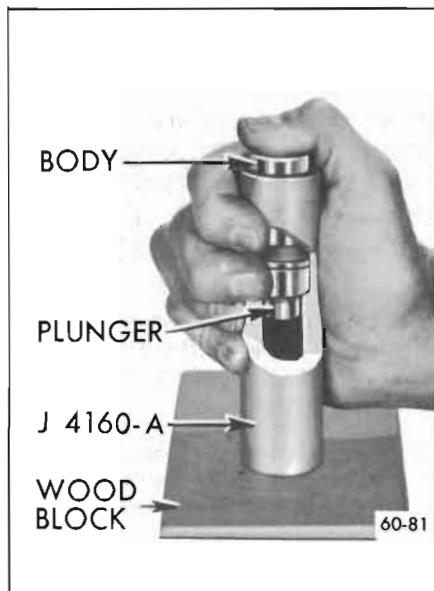

Figure 60-81—Removing Stuck Plunger With J-4160-A
6. If a plunger sticks in lifter body, place lifter in large end of Plunger Remover J-4160-A with plunger inward. While holding lifter with thumb, rap the open end of remover against a block of wood with just enough force to jar the plunger from body. See Figure 60-81.